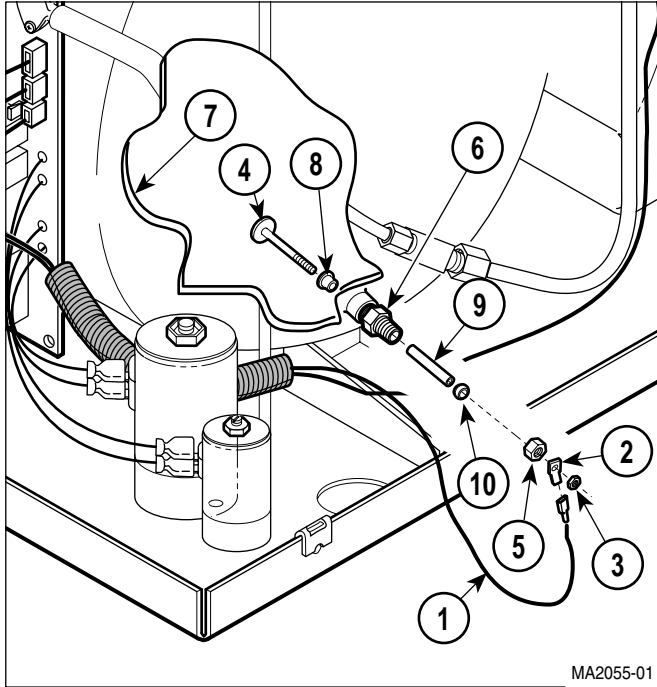

Figure 4-9. Pressure Vessel Water Level Sensor Removal / Installation
- (1) Remove back panel (Refer to para 4.5).
- (2) Remove wire tray rack and tray plate (Refer to para (4-17)).
- (3) Disconnect wire (1, Figure 4-9) from terminal (2).
- (4) Remove nut (3) and terminal (2) from level sensor rod (4).
- (5) Remove nut (5).